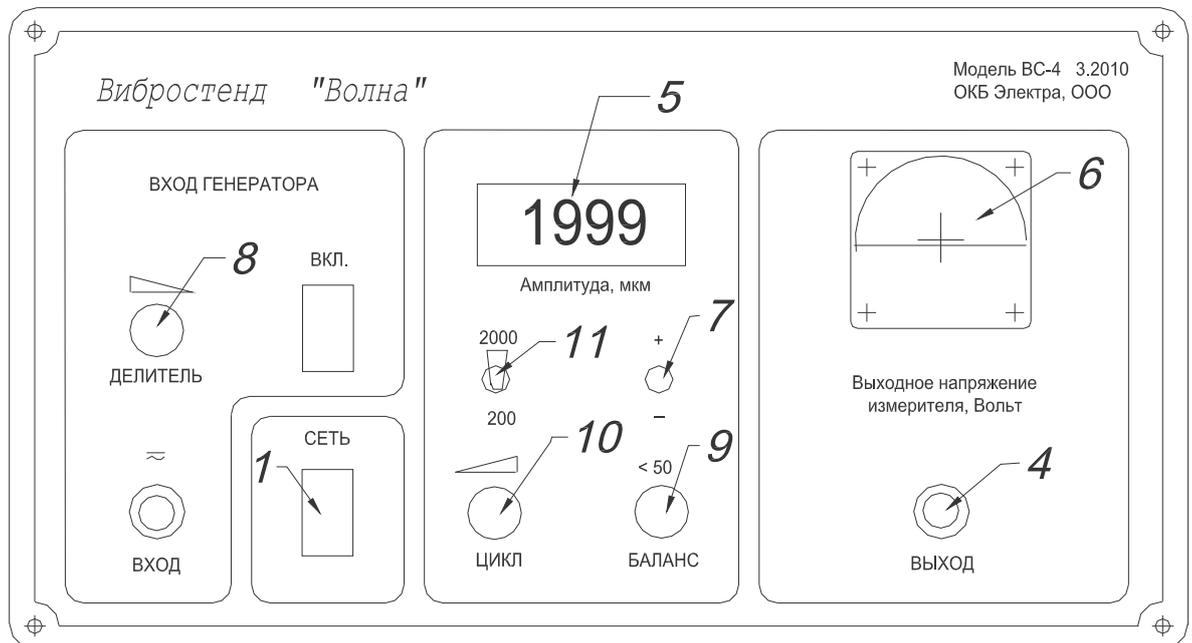

Fig.1. Control unit panel
- In the future, if necessary, you can adjust the zero BALANCE knob on the control unit, item 9 (Figure 1).
At frequencies below 0.1 Hz for reading pointer, use the button 7, Figure 1, polarity switch, and turn the knob CYCLE to the end position in a clockwise direction.